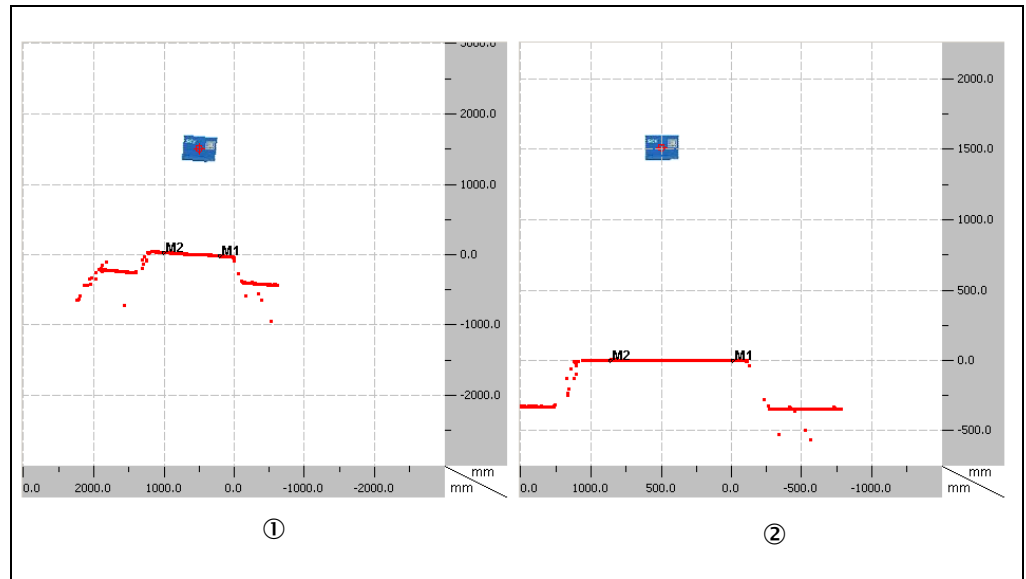

Fig. 38: Example of a scanned conveyor system
- Position two marks using the right mouse button (M1 and M2) (see Fig. 38 ①). Ensure the marks are as close as possible to the edges of the surface of the conveyor but not on the side limits of the conveyor system.
- In the assistant, click on CALCULATE. The angle γ and the z coordinate are calculated and the scan line drawn horizontally in the diagram (see Fig. 38 ②).